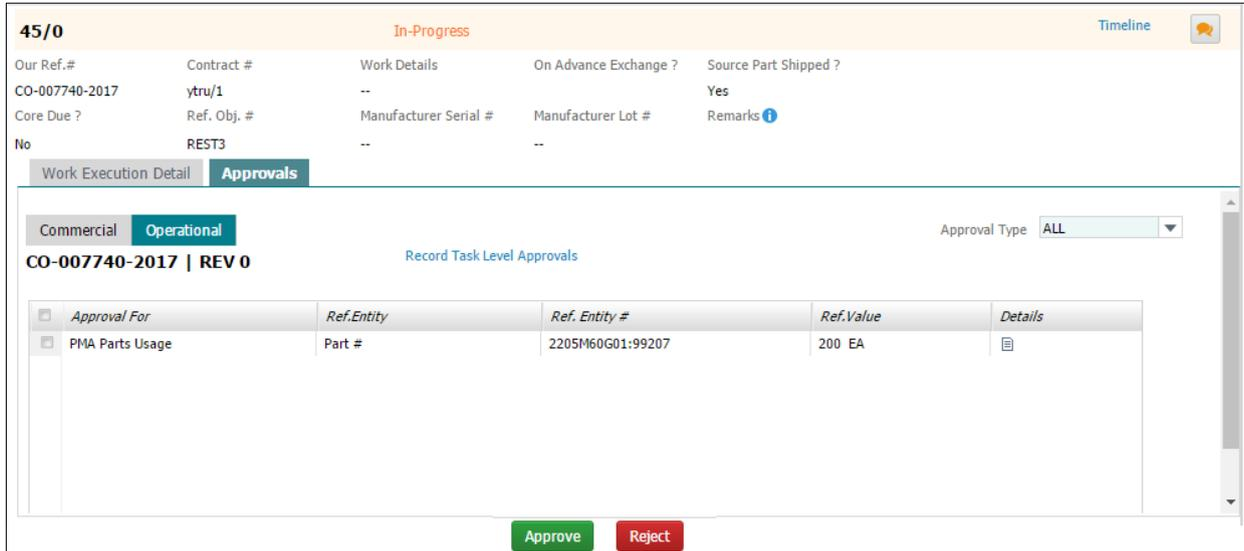

Figure 2.8 Approvals tab – Operational Approval
1. Select the **Operational** tab in the **Approvals** section of the **Customer Portal** business component. The Commercial tab page appears. See *Figure 2.8*.